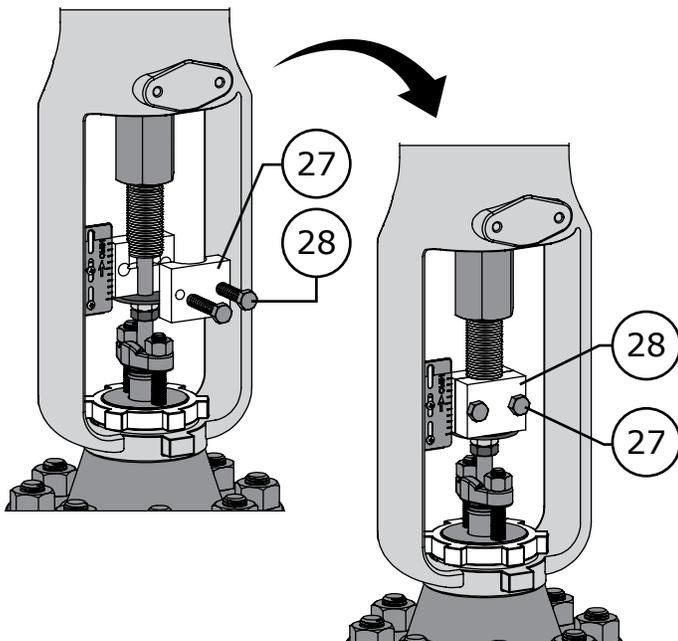

Figure 11 Standard DFC Connecting Block Assembly
- 1 The following procedures must be completed before installing the connecting block (Key 27). If the connecting block is still attached to the actuator stem (Key 13), remove it by removing the connecting block cap screws (Key 28). Refer to Figures 11 & 12.
- 5 Align the connecting block (Key 27) with the window of the yoke (Key 2) and install the connecting block using cap screws (Key 28), refer to Figure 11. Be careful to achieve proper thread engagement between the stems and the connecting block, avoid cross-threading any threads. A slight change to operating pressure may be necessary to help with alignment.